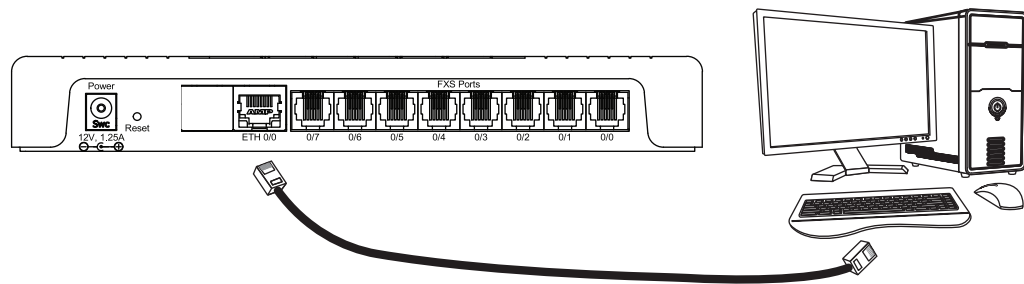

Figure 13. Connecting the SmartNode to a laptop PC
1. The SmartNode device is connected to a laptop PC (see figure 13) that is configured with a fixed IP in the same range as the SmartNode device's IP address (for instance: PC's IP address; 192.168.1.10; mask: 255.255.255.0).